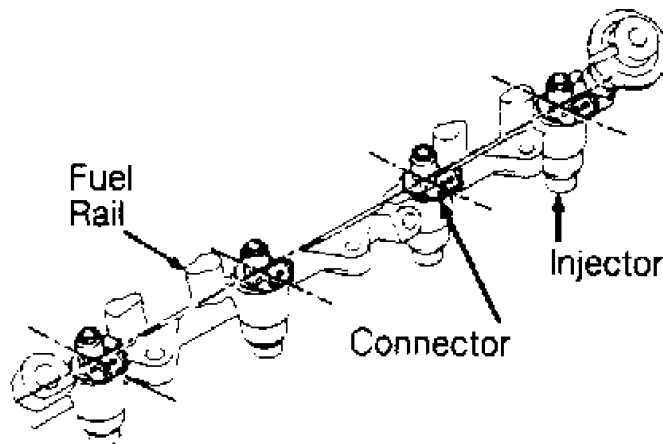

Fig. 4: Positioning Injector Connectors (Celica 3S-GTE)
1) Apply light coat of gasoline to NEW "O" rings and install 2 "O" rings to each injector. Install each injector into fuel rail so injector electrical connector is opposite injector cover bolt hole. See Fig. 4.